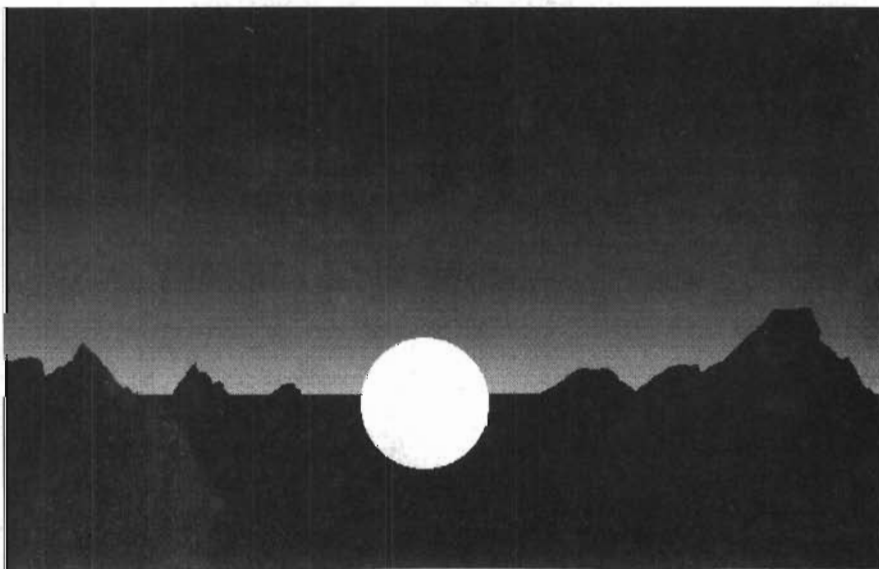

Figure 1
6) Choose color 0 and draw in some rocky mountains silhouetted against the sky. Use the freehand filled drawing tool (Shift D) with Fill Type set to solid. Make sure that they touch the black bottom third of the screen. Look at Figure 1 for reference.